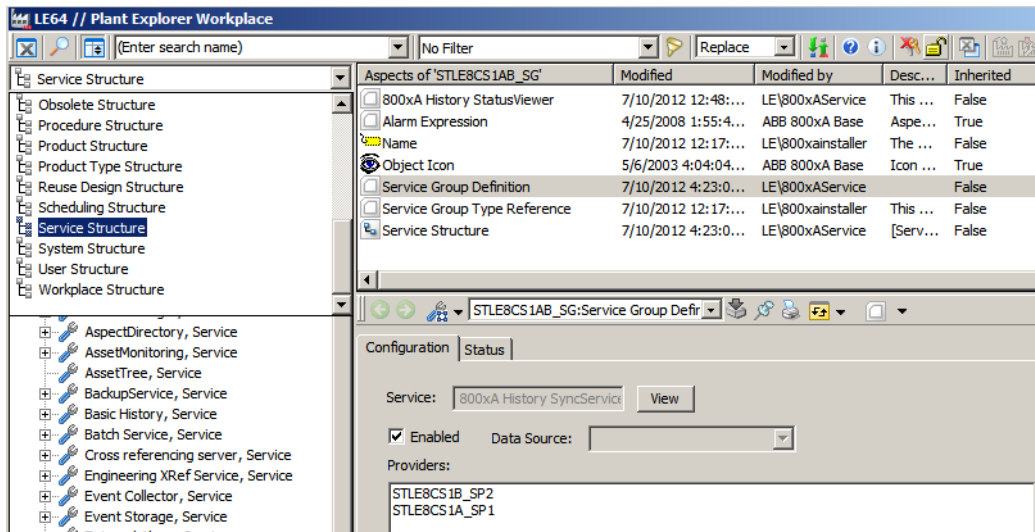

Figure 34. Service Structure in Plant Explorer Workplace
2. Click the left side, structure drop-down menu and click **Service Structure** in the menu item as shown in Figure 34
2. Click on the left side, structure drop down menu and select **Service Structure** in the menu item as shown in Figure 34.